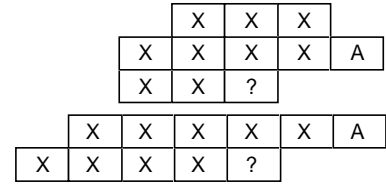

Fig. 9. 1 Template (X, A)
- 2 or 3 line 10 pixel template (See Fig9. 1)